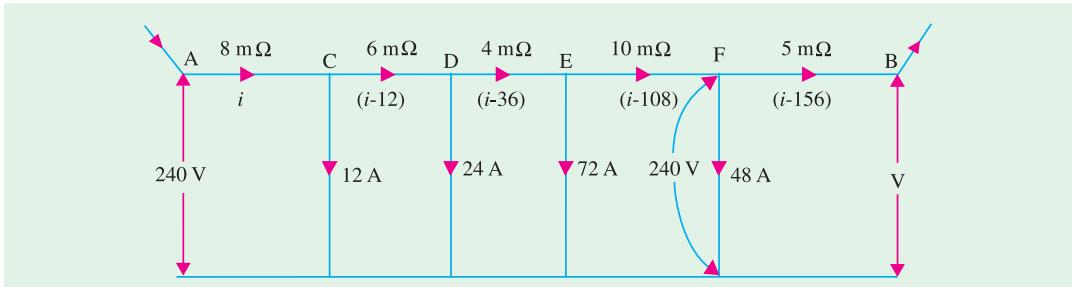

Fig. 40.23
**Solution.** Let the current fed at the feeding point A be  $i$ . The current distribution in various sections becomes as shown in Fig. 40.23.